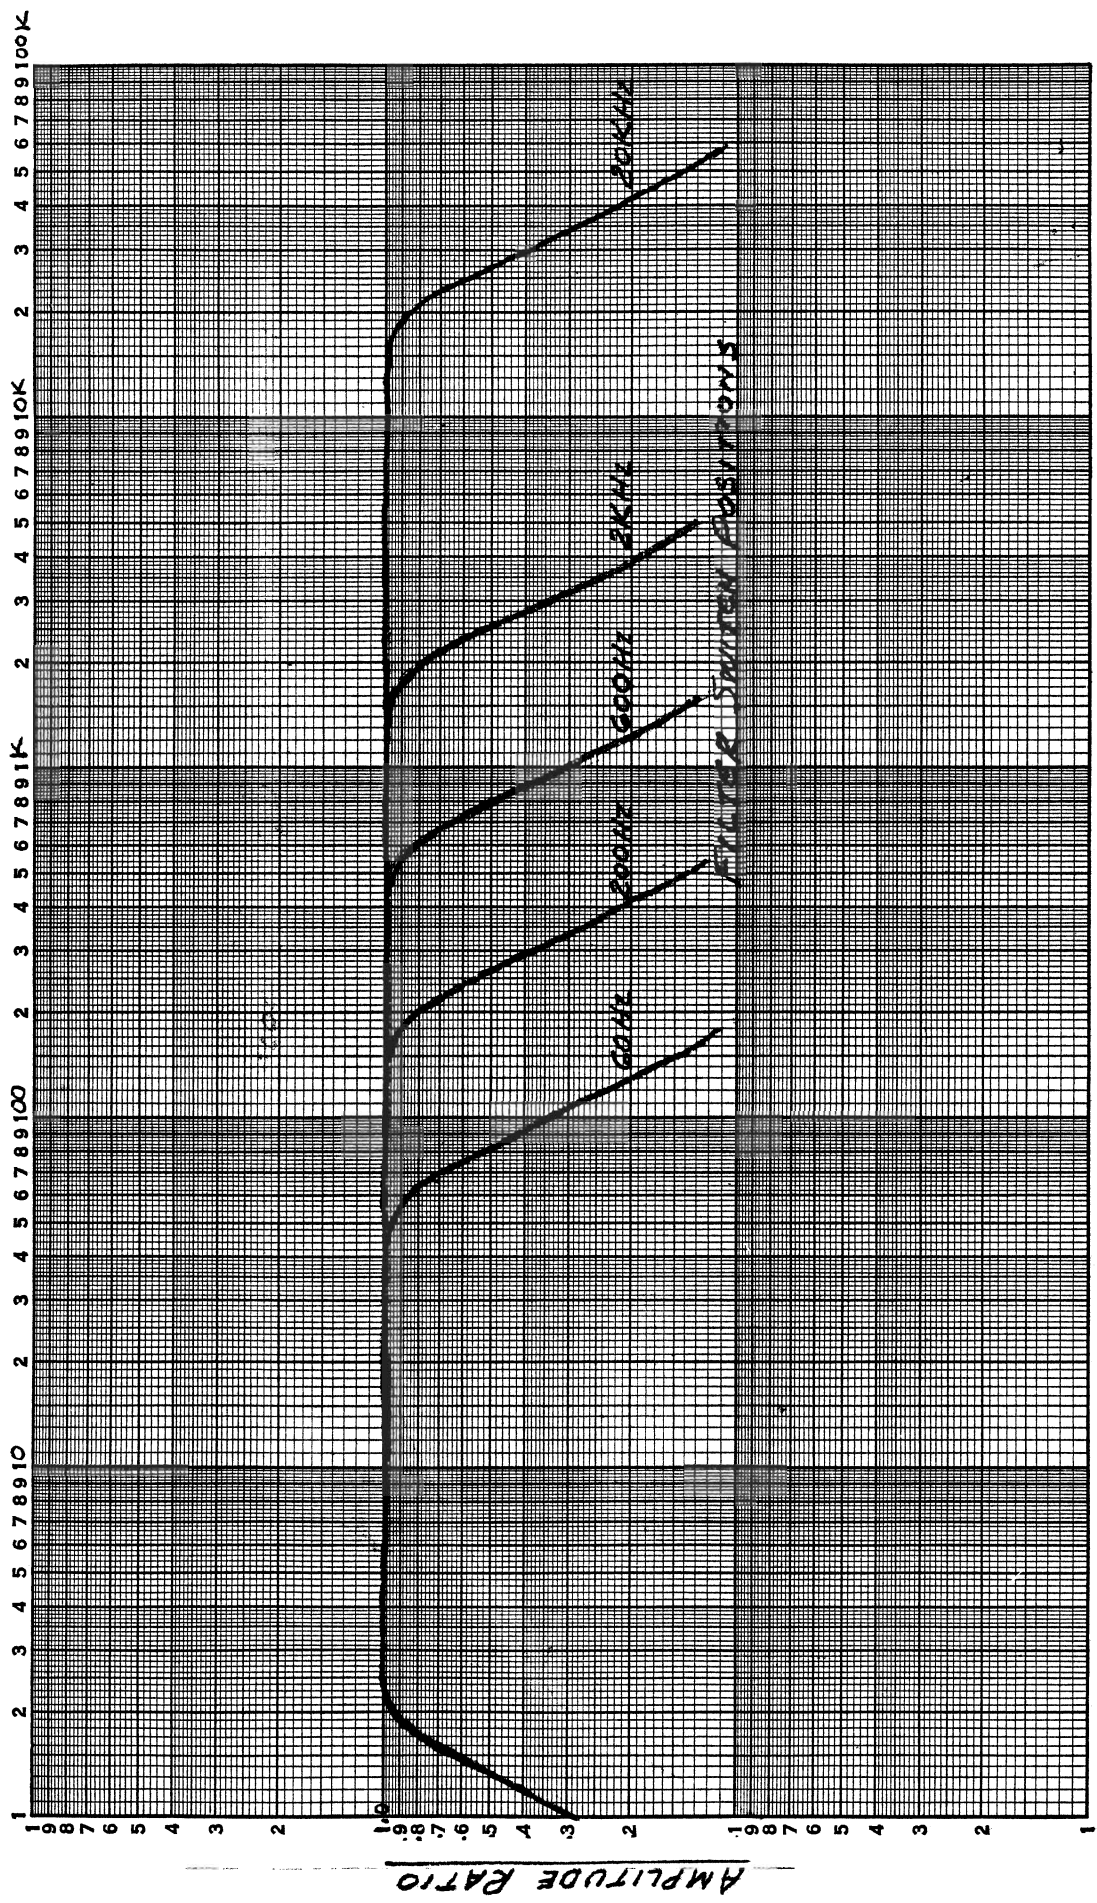
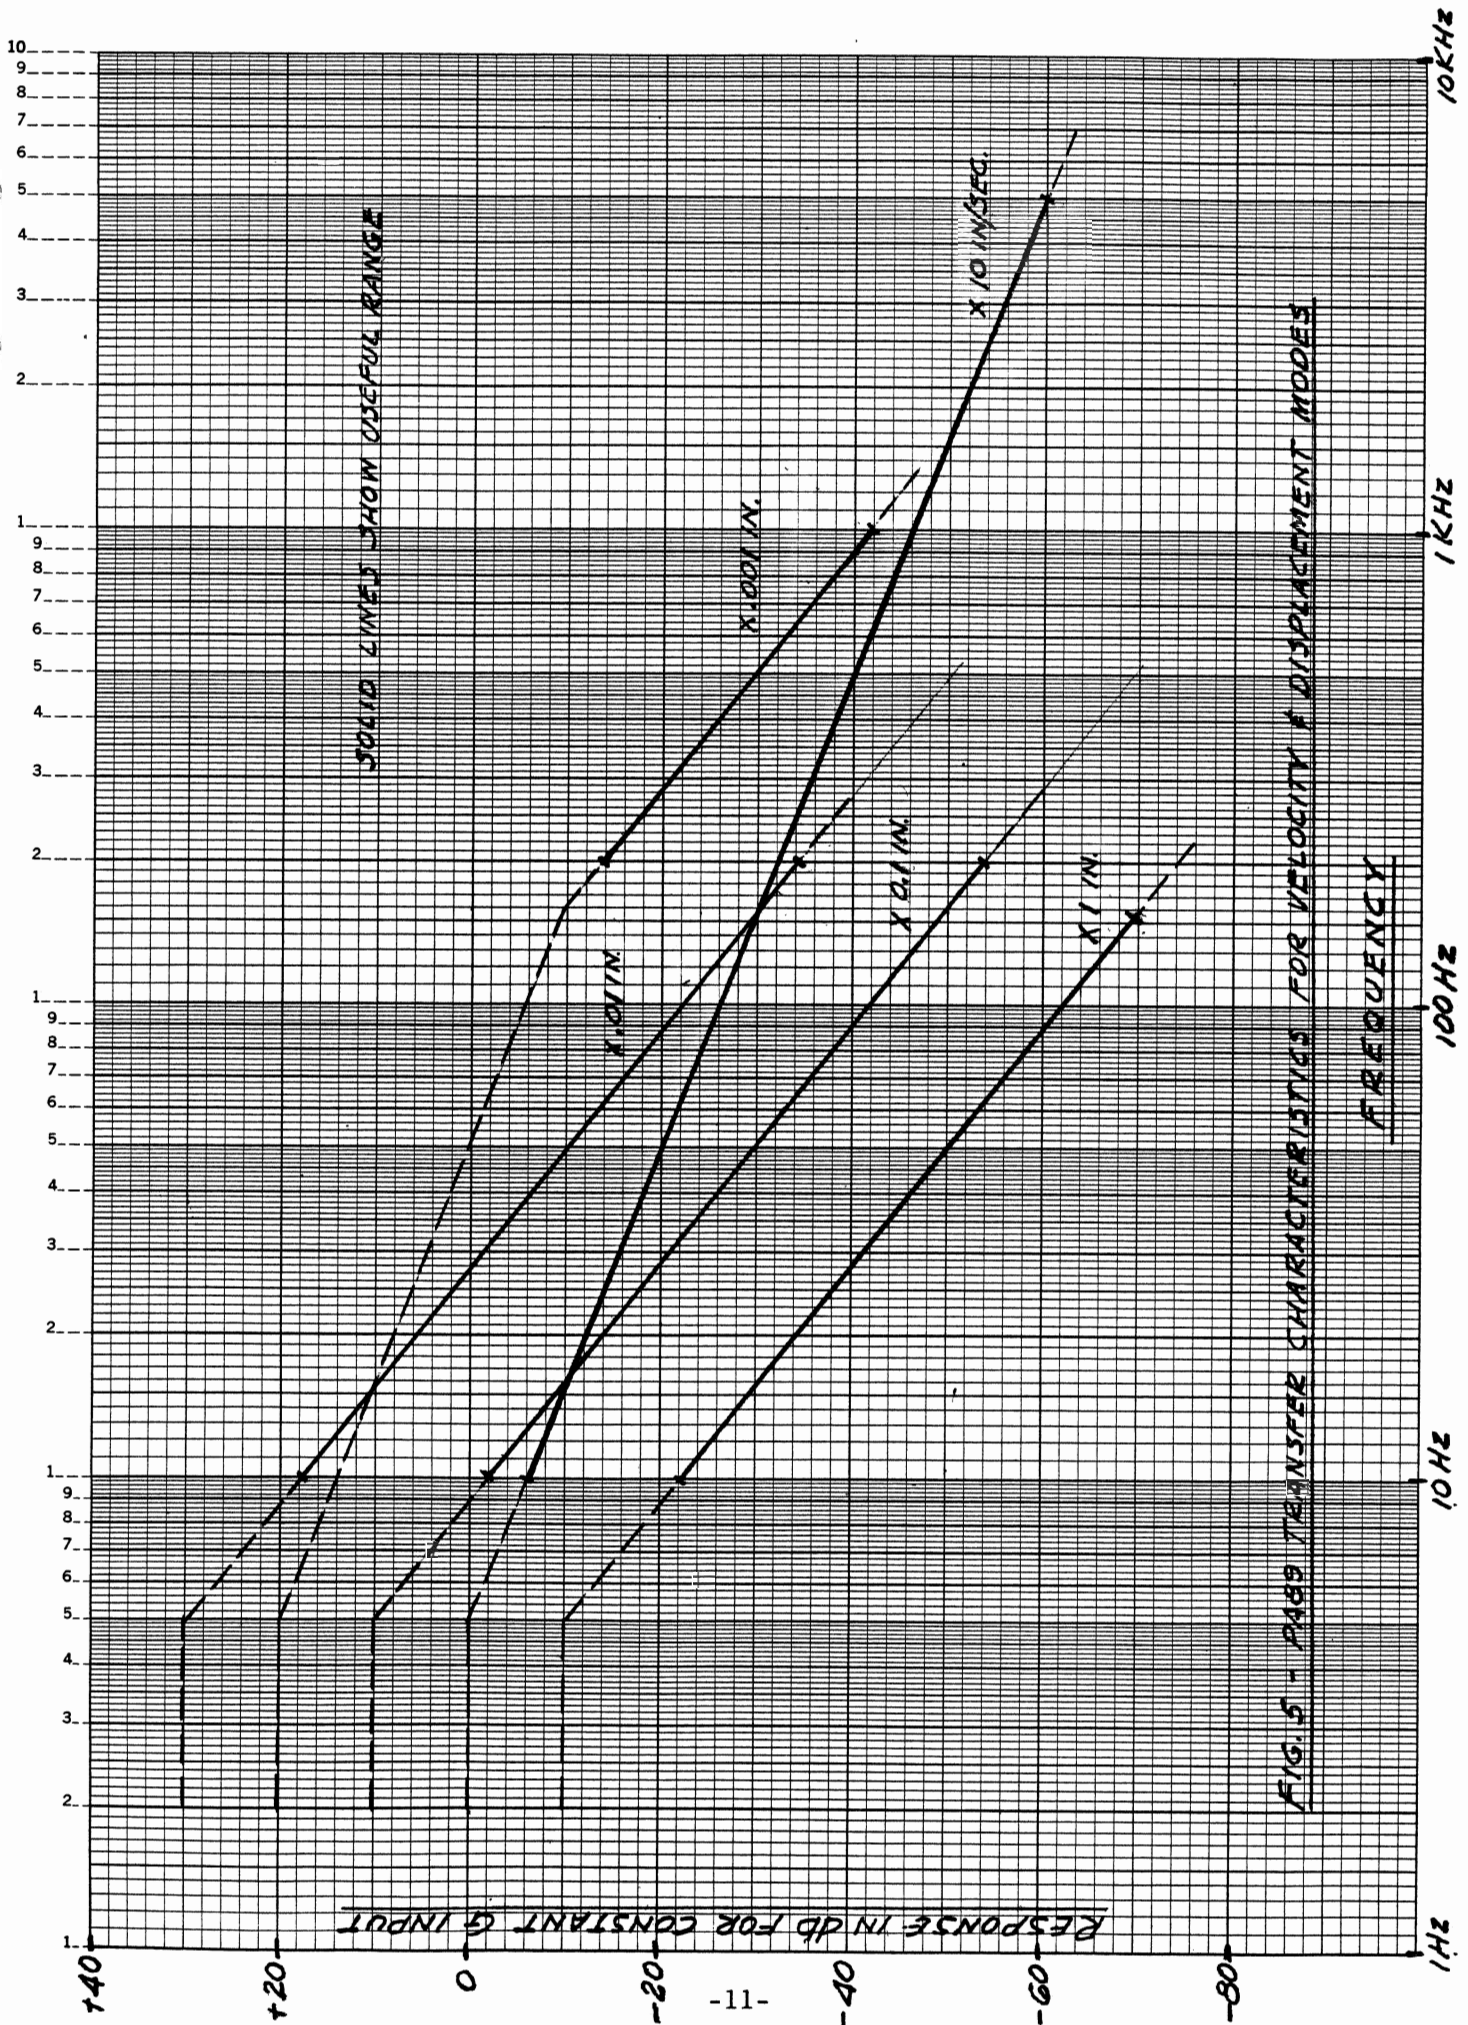

FIGURE 4 - FREQUENCY RESPONSE FOR CONSTANT G INPUT
FIG. 5 - PASS TRANSFER CHARACTERISTICS FOR VELOCITY & DISPLACEMENT MODES
- 3.7.1 Figure 4 shows the frequency response curves for constant acceleration input at various filter switch positions. This switch is located internally on the circuit board as shown in Figure 2. For all switch positions, the high-frequency rolloff is -12 db per octave.
- 3.7.2 Figure 5 shows the PA89 transfer characteristics for operation in the vibrational velocity and displacement modes. The curves are based on a constant voltage (acceleration) input and show how the output decreases inversely with the frequency for the single-integration (velocity) mode, and inversely with the frequency-squared for the double-integration (displacement) mode in accordance with the relations between sinusoidal acceleration, velocity, and displacement. Figure 5 also shows the usable frequency ranges for the velocity and displacement modes.
- (1) Sensitivity adjust at 100%.
- (2) All outputs will change directly with Gain Switch Position--e.g., changing gain from 100 to 1000 will increase output by 10X.
- (3) Over usable frequency range; see Figures 4 and 5.
- (4) Displacement in inches peak-to-peak.
- 3.8.3 For acceleration measurement, the broadband frequency response is flat from 2 Hz to 20KHz, as shown in Figure 4. For velocity and displacement measurement, the usable frequency response is shown in Figure 5. The low end is limited by the integrator characteristics, and, for practical purposes, the high end is limited to the output at -60 db below full-scale acceleration output.
- 3.8.4 Figure 5 shows that the PA89 characteristics allow velocity measurement from 10 Hz to 5 KHz, and displacement from 10 Hz to 1 KHz. These ranges encompass the practical ranges of mechanical vibration measurements by the use of piezoelectric accelerometers, as illustrated by the following table: